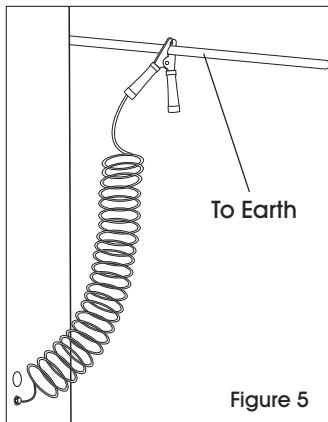

Figure 5
3. Attach the other end of the ground wire to a ground bus or ground rod. Ground cabinet to earth. (See Figure 5) Refer to NFPA 77 for further information.